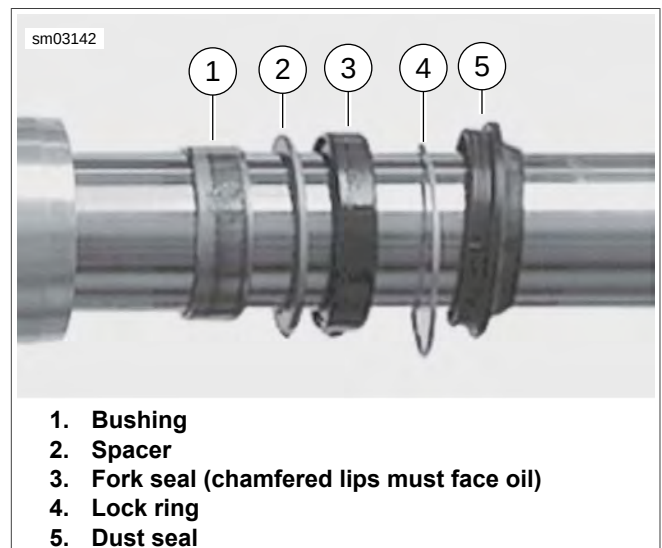

Figure 2-110. Seal Components
2. See Figure 2-110. Install chrome dust cover (not shown) and components onto fork slider in order shown.